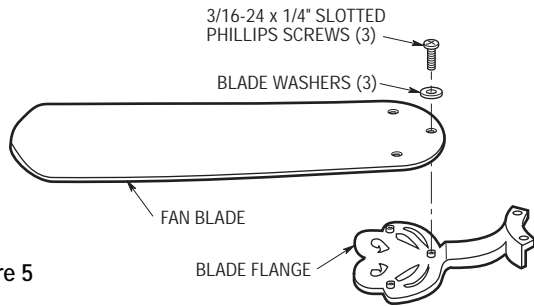

Figure 5
8. Mount blade flanges to fan blades using three 3/16-24 x 1/4" slotted Phillips screws and three blade washers (Figure 5).